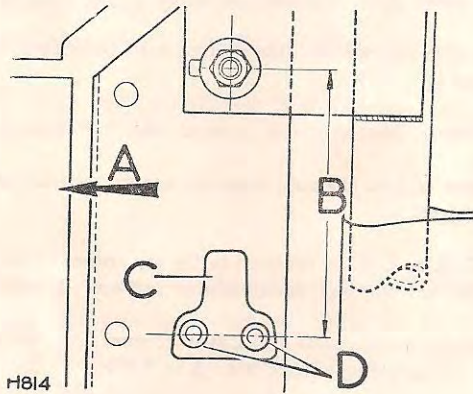

Fig. 16. Position of stowage hook on 'BC' post 88 and 109 with full length hood.
1. Position the stowage hook on the 'BC' post to the dimensions shown at Figs. 16, 17 or 18 as applicable for the model concerned. In each case R.H. side illustrated.